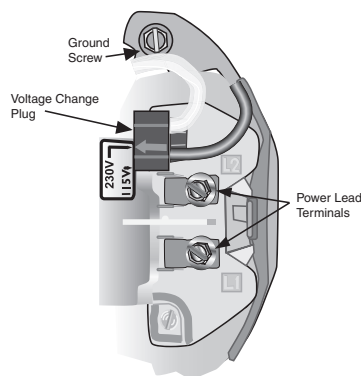

Figure 6 – Voltage set to 230 volts, Plug Type.
4. Voltage setting (under the motor end cover) options are shown in Figure 6 and 7. Do not change motor wiring if line voltage is 230 volts. Connect power supply as shown for your supply voltage.
1. Connect ground wire first. Connect the ground first, then to green grounding terminal provided under motor canopy (see Figure 6) identified as GRD. Make ground connection to this terminal. Do not connect motor to electrical power supply until unit is permanently grounded; otherwise serious or fatal electrical shock hazard may be caused.